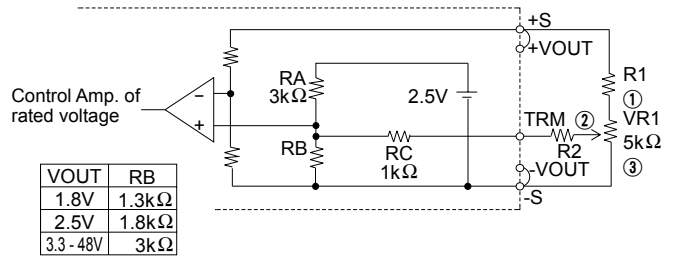

Fig.3.5 Connecting External Parts
Output voltage can be adjusted by connecting an external potentiometer (VR1) and resistors (R1 and R2) as shown in Fig. 3.5. Output voltage will increase if the resistance between ① and ② is reduced by turning the potentiometer clockwise. Recommended values for external components are shown in Table 3.2.